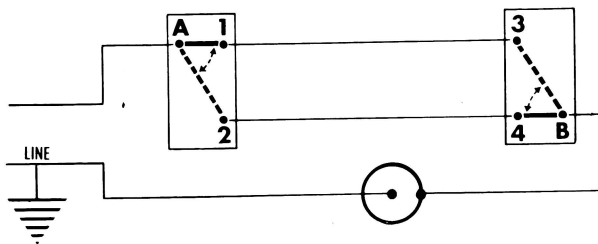

Figure 2
In Figure 2, you can see how a 3-way switch is connected to the line wire A. Current may flow from A to (1) or from A to (2), depending on the position of the switch. The words "ON" and "OFF" do not appear on the switch. Either position of the switch handle will operate the light, depending on the position of the other 3-way switch at B, which controls the same light.